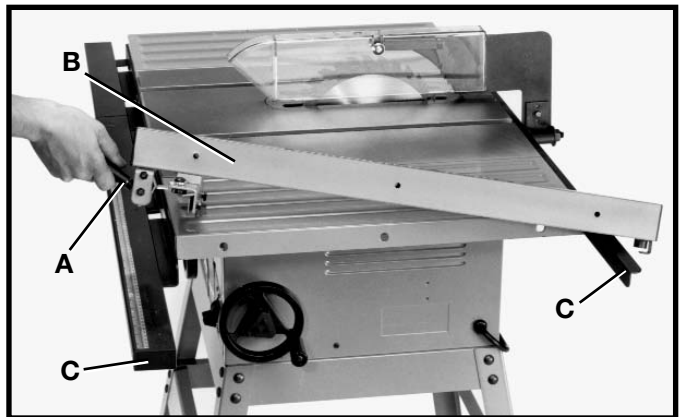

Fig. 39
1. Make certain the lock handle (A) Fig. 39, of the rip fence assembly (B) is in the up position.
2. Assemble the rip fence assembly (B) to both the front and rear guide rails (C) as shown in Fig. 39.